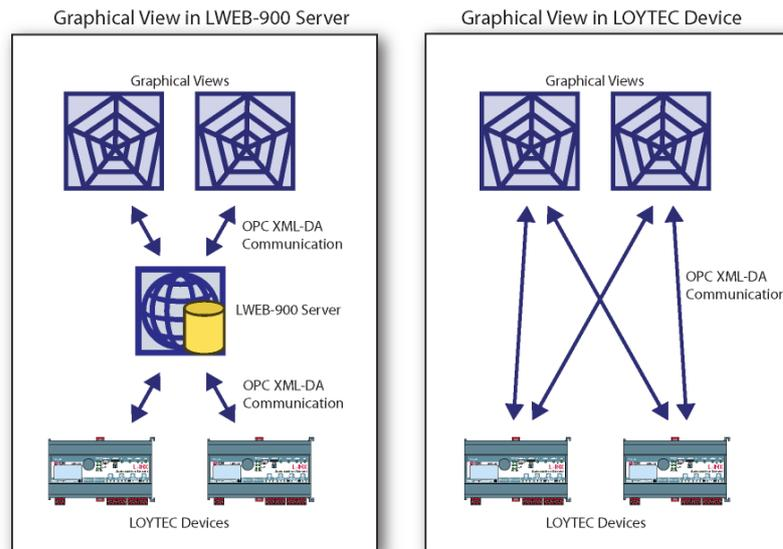

Figure 94: Comparison of Graphical View Types
- Graphical view in LWEB-900 Server: Graphical views of this type can be located in any user folder in the navigation view. In order to display real-time data, the graphical view communicates with the LWEB-900 Server using OPC XML-DA. The LWEB-900 Server in turn communicates with LOYTEC devices using OPC XML-DA. This approach has the advantage that it relieves the communication load of the LOYTEC devices. For the LOYTEC devices it makes no difference whether a graphical view is displayed only on one PC or on multiple PCs. The server fetches the data only once from the LOYTEC devices and distributes it to multiple graphical views (see Figure 94).